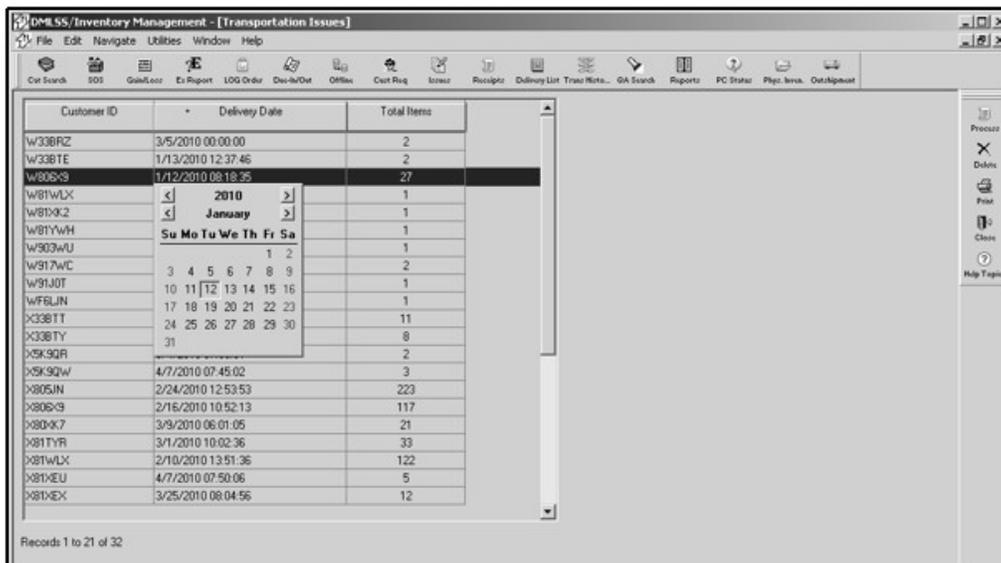

Figure 43. Transportation Issues Window
a. **IM Inbox.** In the IM Inbox, select “IM Transportation Issues Pending” and double-click or select the “jump ahead” icon. In the “Transportation Issues” window (Figure 43), highlight the line item and insert the projected delivery date (from the dropdown) that the receiving customer requires the shipment and select the Process icon on the vertical toolbar. Verify the Customer ship to address (Figure 44, below), and select “OK”.